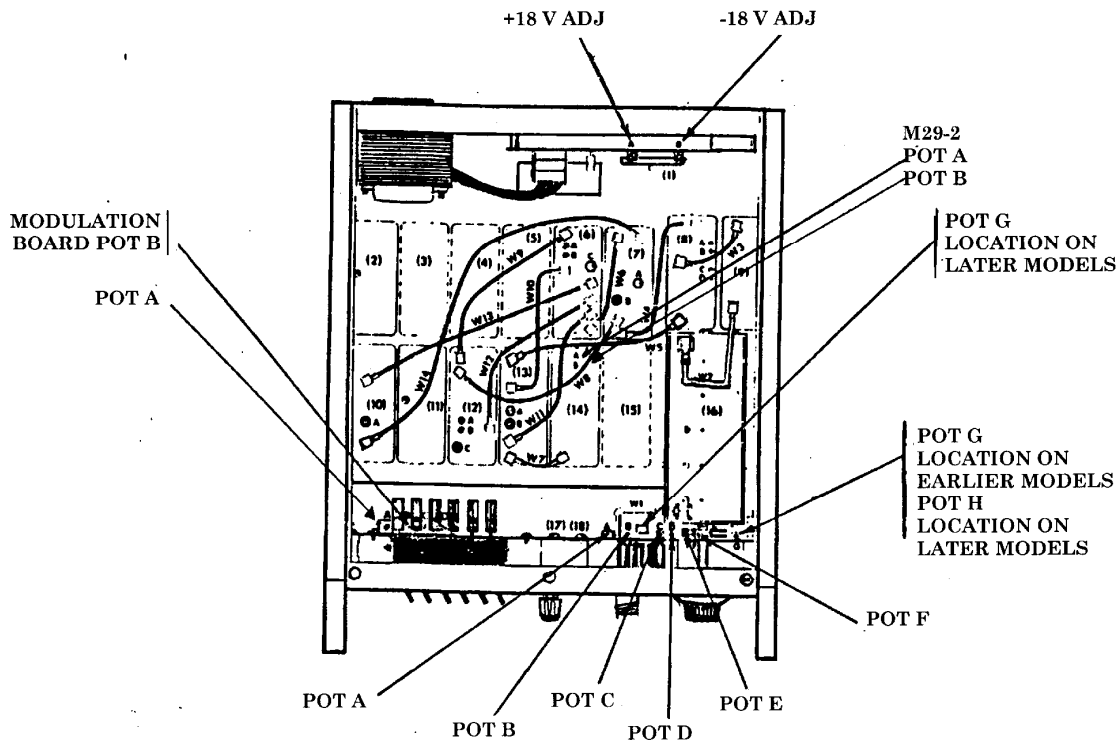

Figure 2. Test instrument - top view.
(6) Adjust MODULATION BOARD POT A (fig. 2) for a $+5.00 \pm 01$ V dc indication on the multimeter (R).
(9) Adjust M29-2 POT B (fig. 2) to produce an indication of 2.000 MHz 100 Hz on frequency counter (R).
(10) Set **MODULATION FM/AM** slide control to full up position and adjust M29-2 POT A (fig. 2) to produce an indication of 2.100 MHz 100 Hz (R) on frequency counter.
(11) Set **MODULATION MODE** switch to **FMx1** and adjust **MODULATION BOARD POT B** on left side of board (fig. 2) to produce an indication of 2.010 MHz 100 Hz on frequency counter (R).
- (1) Temporarily disconnect measuring receiver sensor module from TI.
- (2) Set **OUTPUT VERNIER** control fully ccw and adjust meter board POT B (fig. 2) until meter needle bisects dot at left end of meter scale (R).
- (3) Adjust **OUTPUT VERNIER** control fully cw and adjust meter board POT A (fig. 2) for a +3-dBm **OUTPUT** meter reading (R).
- (4) Set **OUTPUT** step attenuator to **+10 dBm**.
- (5) Connect measuring receiver sensor module to TI **RF OUTPUT**.
- (6) Alternately adjust **OUTPUT VERNIER** control for a **0** and **-7 dBm** reading on TI **OUTPUT** meter while adjusting meter board POT F (fig. 2) for +10 dBm and POT E (fig. 2) for +3 dBm indications on the measuring receiver. Repeat the above until no further adjustments are required (R).
(7) Adjust **OUTPUT** step attenuator to **0 dBm**.
(8) Alternately adjust **OUTPUT VERNIER** control for a **+3** and **-6 dBm** reading on TI **OUTPUT** meter while adjusting meter board POT C (fig. 2) for +3 dBm and POT D for -6 dBm indications on the measuring receiver. Repeat the above until no further adjustments are required (R).